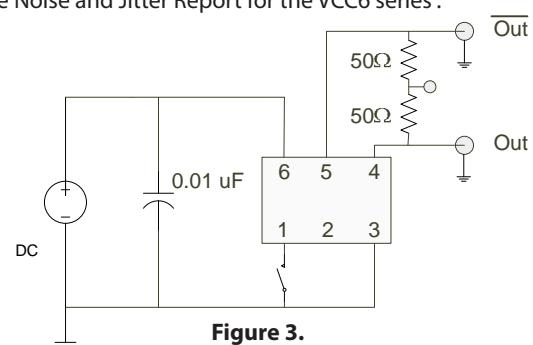

Figure 3.
4. Figure 2 defines these parameters and Figure 3 defines the test circuit.